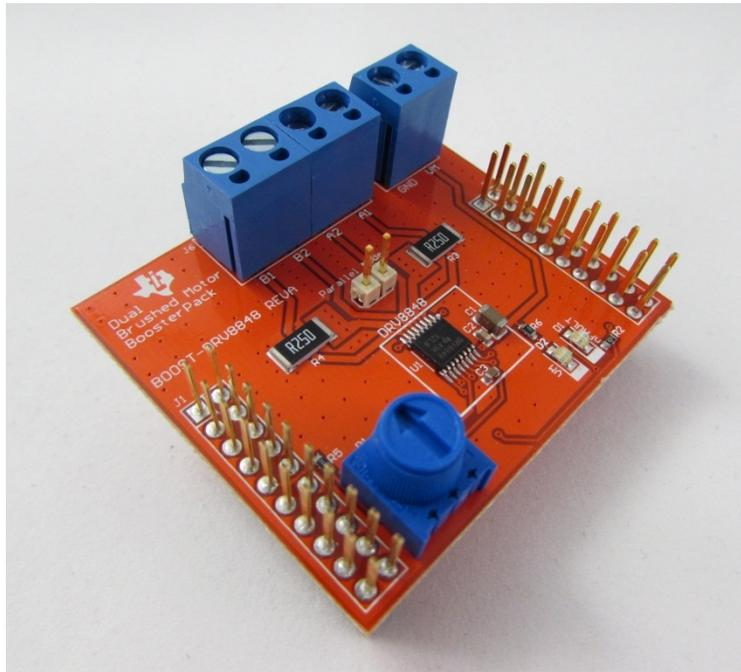
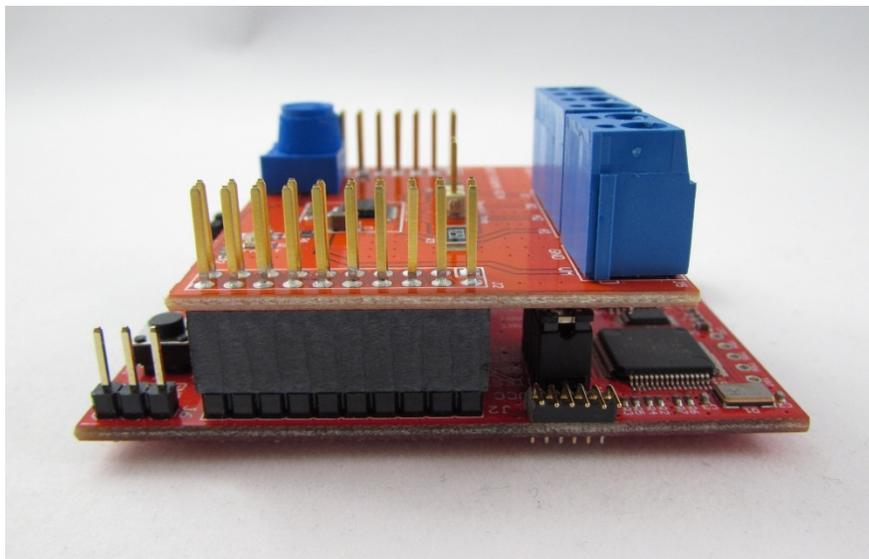

Figure 1. BOOST-DRV8848
Figure 2. BOOST-DRV8848 on Top MSP430G2 LaunchPad
Figure 1 illustrates the BOOST-DRV8848 and Figure 2 pictures the BOOST-DRV8848 connected to the MSP430G2 LaunchPad™.
1. Plug the dual brushed DC motor BoosterPack onto the LaunchPad as shown in Figure 2. The MSP430G2 LaunchPad will dock with the outer row of the 20-pin headers. The inner row is provided to maintain compatibility with 40-pin LaunchPads. **Orient the terminal block headers towards the USB connector.**